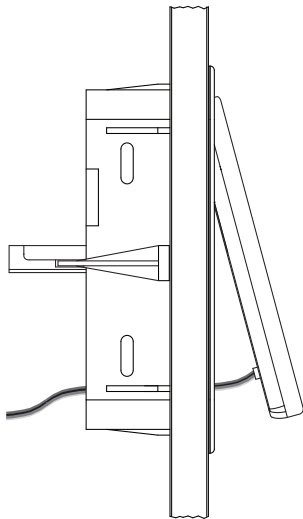

Figure 11: Placing the XTLtouch
3. Push the bottom of the keypad into the backbox until the lower slots snap in to place. See Figure 11. See LT-1321 for additional backbox mounting instructions.